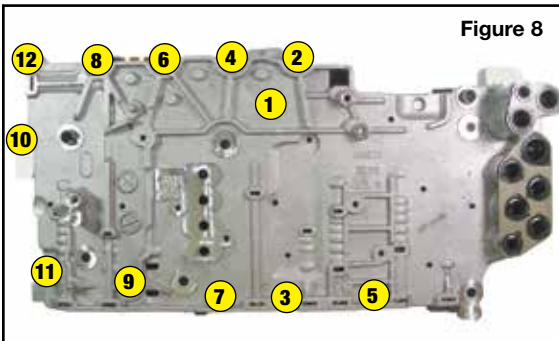

Figure 8
- Remove the 12, 7mm head bolts (**Figure 8**).
- Install the 12, 7mm head bolts and torque to 71 in-lbs. in sequence shown (Figure 8).